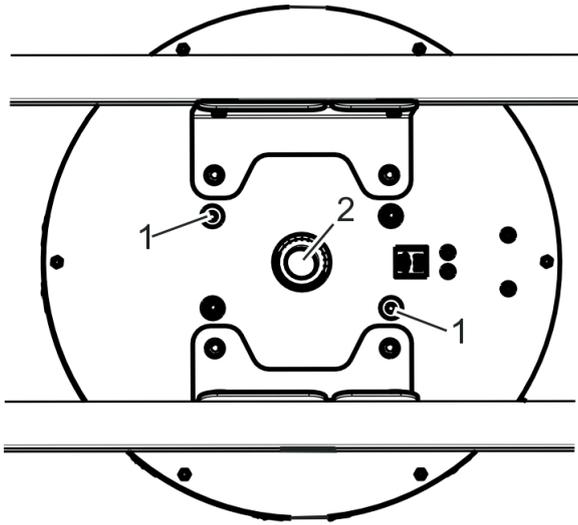

Fig. 95 Operator (top view)
13. Guide cable for spring contact pins from underneath up through the center of the operator (Fig. 95/2).
14. Remove the mounting and transport securing screws (Fig. 95/1) from the top side of the operator (Fig. 95). Do not dispose of the transport securing screws but save them and hand them to the facility operator during the facility operator instruction session.